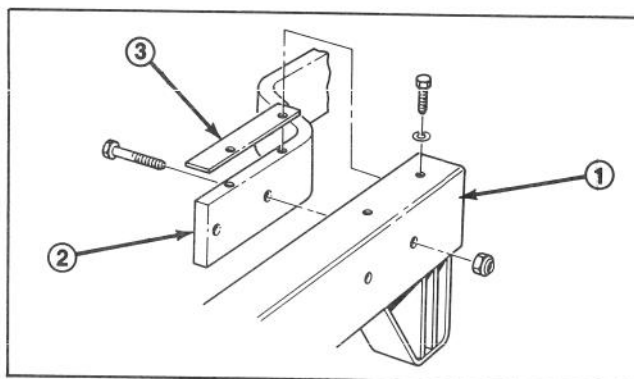

Figure 2
- Align carrier frame mounting holes with mounting holes in traction frame, while positioning shim on traction frame and aligning mounting holes (Fig. 2).
- Secure each side with (2) 3/8-16x1-3/4" lg. capscrews and locknuts. Locknuts must be positioned outside carrier frame.
- Secure top of each carrier frame and shim to traction frame with (2) 3/8-16x3/8" lg. capscrews and lockwashers. Torque fasteners to 240-320 in. lb.